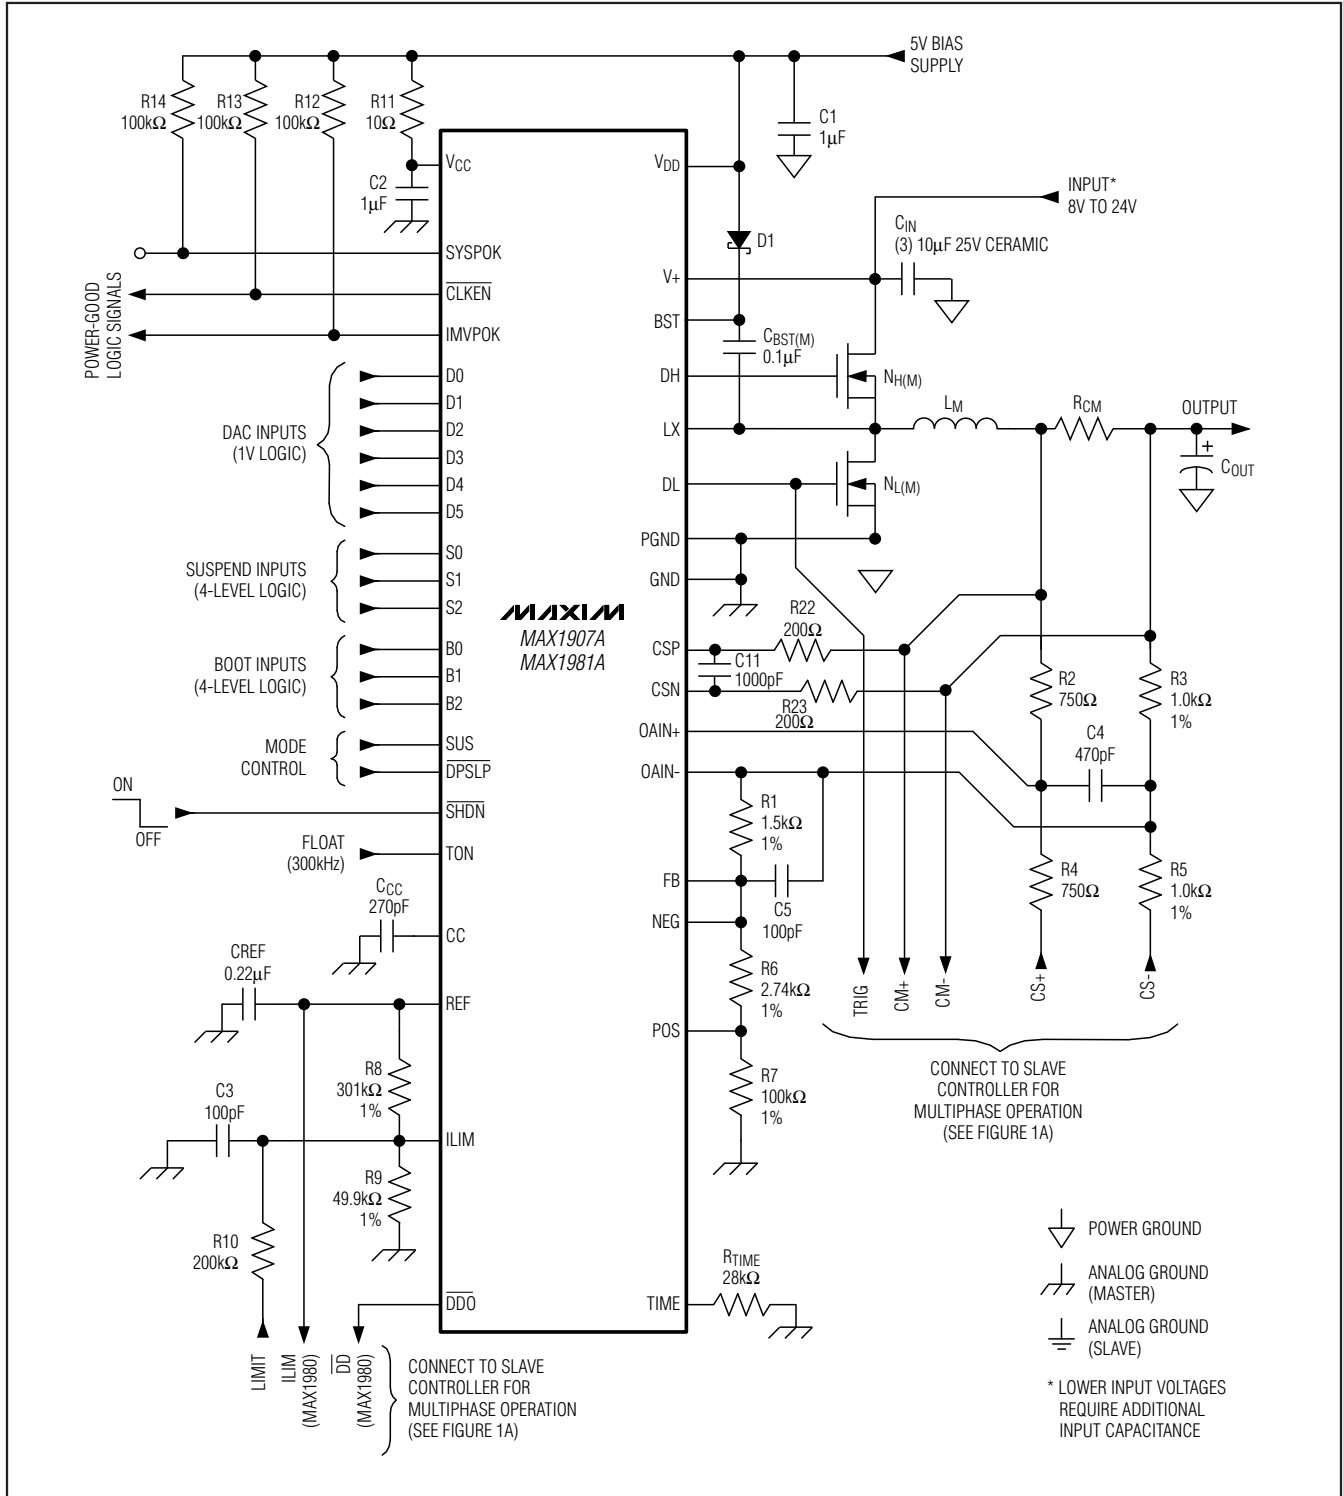
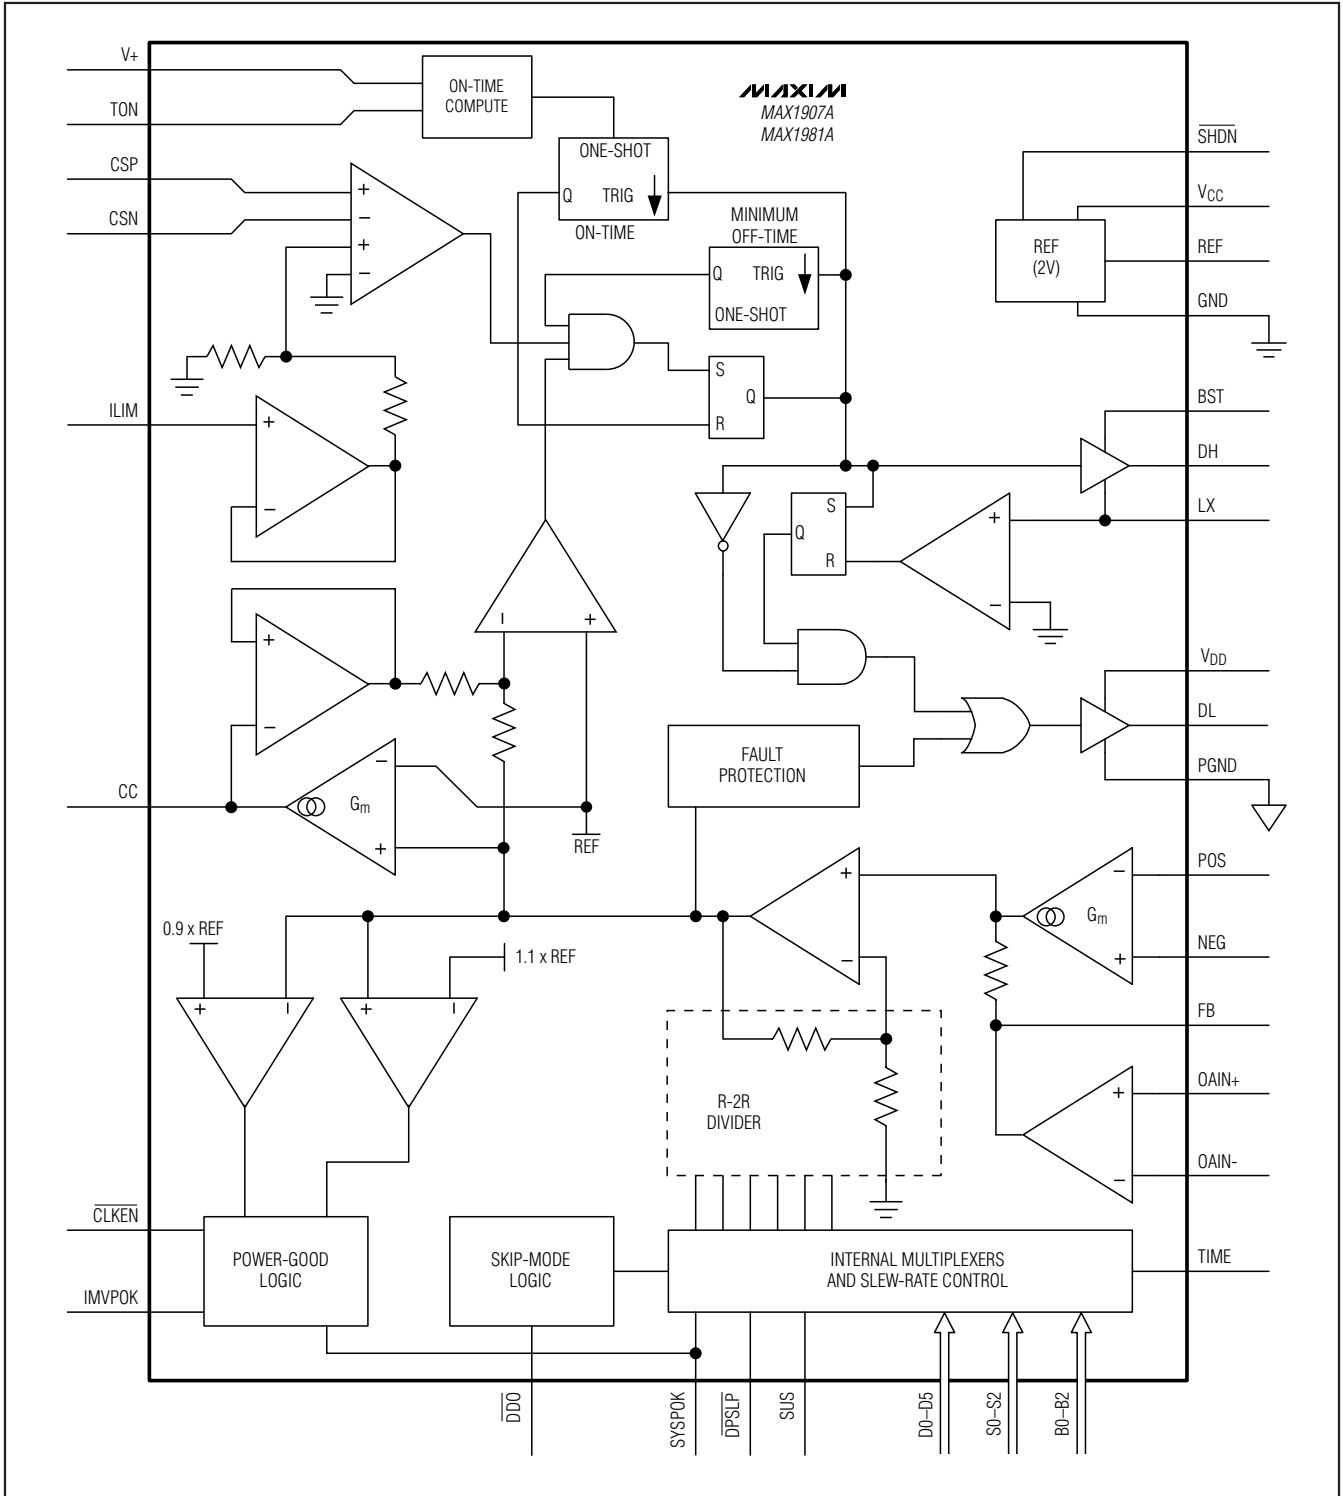

Figure 1. Standard Multiphase Application Circuit
Figure 2. MAX1907A/MAX1981A Functional Diagram
(Circuit of Figure 1, $V_+ = 12V$, $V_{CC} = V_{DD} = 5V$, B0–B2 set to 1.276V, S0–S2 set to 0.748V.)
Table 1. Component Selection for Standard Multiphase Applications (Figure 1)
The Quick-PWM control architecture is a pseudo-fixed-frequency, constant-on-time, current-mode regulator with voltage feed-forward (Figure 2). This architecture relies on the output filter capacitor's ESR to act as the current-sense resistor, so the output ripple voltage provides the PWM ramp signal. The control algorithm is simple: the high-side switch on-time is determined solely by a one-shot whose period is inversely proportional to input voltage and directly proportional to output voltage. Another one-shot sets a minimum off-time (400ns, typ). The on-time one-shot is triggered if the error comparator is low, the low-side switch current is below the current-limit threshold, and the minimum off-time one-shot has timed out.
Two transconductance amplifiers provide a fine adjustment to the output regulation point (Figure 2). One amplifier forces the DC average of the feedback voltage to equal the VID DAC setting. The second amplifier is used to create small positive or negative offsets to the feedback voltage, using the POS and NEG pins.
The POS/NEG amplifier is used to add small offsets to the VID DAC setting in deep-sleep mode ($\overline{DPSLP} = \text{low}$). The offset amplifier is summed directly with the feedback voltage, making the offset gain independent of the DAC code. This amplifier has the ability to offset the output by $\pm 200\text{mV}$. To create an output offset, bias POS and NEG to a voltage (typically V_{OUT} or REF) within their 0 to 2V common-mode range, and offset them from one another with a resistive divider (Figure 1). If V_{POS} is higher than V_{NEG} , then the output is shifted in the positive direction. If V_{NEG} is higher than V_{POS} , then the output is shifted in the negative direction. The output offset equals the voltage difference from POS to NEG.
In skip mode (SUS = high, or \overline{DPSP} = low), an inherent automatic switchover to PFM takes place at light loads (Figure 3). This switchover is effected by a comparator that truncates the low-side switch on-time at the inductor current's zero crossing. The zero-crossing comparator senses the inductor current across the low-side MOSFET. Once $V_{LX} - V_{PGND}$ drops below 4mV (typ), the comparator forces DL low (Figure 2). This mechanism causes the threshold between pulse-skipping PFM and non-skipping PWM operation to coincide with the boundary between continuous and discontinuous inductor-current operation. The load-current level at which PFM/PWM crossover occurs, $I_{LOAD(SKIP)}$, is equal to 1/2 the peak-to-peak ripple current, which is a function of the inductor value (Figure 4). For a battery range of 8V to 24V, this threshold is relatively constant, with only a minor dependence on battery voltage:
The current-limit circuit employs a unique "valley" current-sensing algorithm that uses a current-sense resistor between CSP and CSN as the current-sensing element (Figure 1). If the current-sense signal is above the current-limit threshold, the PWM is not allowed to initiate a new cycle (Figure 2). Since only the "valley" current is actively limited, the actual peak current is greater than the current-limit threshold by an amount equal to the inductor ripple current. Therefore, the exact current-limit characteristic and maximum load
The inverting (OAIN-) and noninverting (OAIN+) inputs are used to differentially sense the voltage across the voltage-positioning sense resistor. The op amp's output is internally connected to the regulator's feedback input (FB). The op amp should be configured as a noninverting, differential amplifier as shown in Figure 1. The voltage positioning slope is set by properly selecting the feedback resistor connected from FB to OAIN- (see the *Setting Voltage Positioning* section). For applications using a slave controller, additional differential input resistors (summing configuration) should be connected to the slave's voltage-positioning sense resistor (Figure 1). Summing together both the master and slave current-sense signals ensures that the voltage-positioning slope will remain constant when the slave controller is disabled.